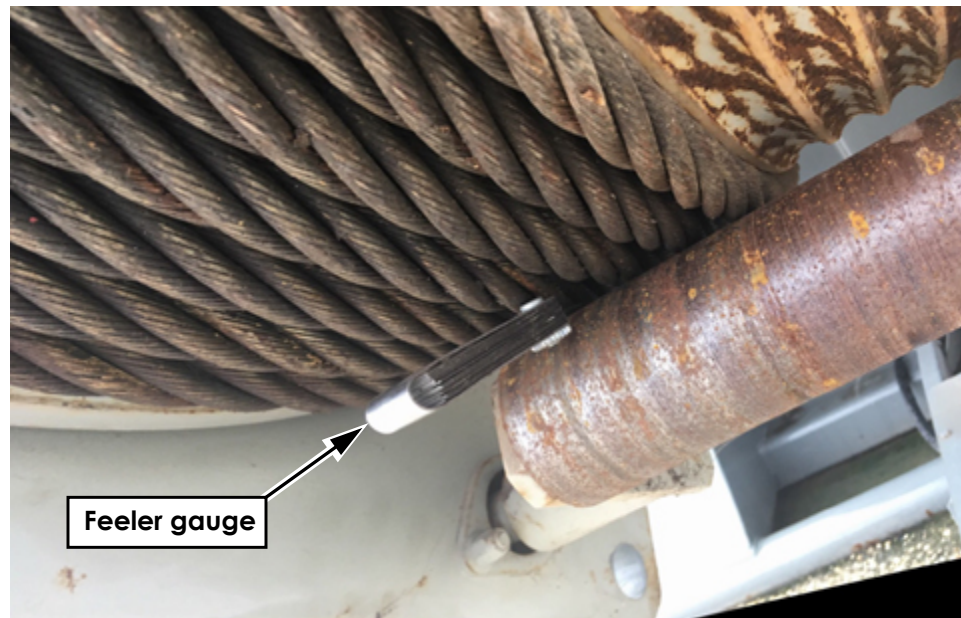

Figure 5: Feeler Gauge Gap Check – Roller to Cable
6. With a feeler gauge check for clearance between winch cables and roller looking for approximate 0.015" clearance, the distance between the cables and the roller length might not be equal, see step 7 for other adjustment. The goal of the adjustment is to ensure the roller prevents the cables from jumping out of the groove without having too much pressure which will damage the cables and roller. See Figure 5.